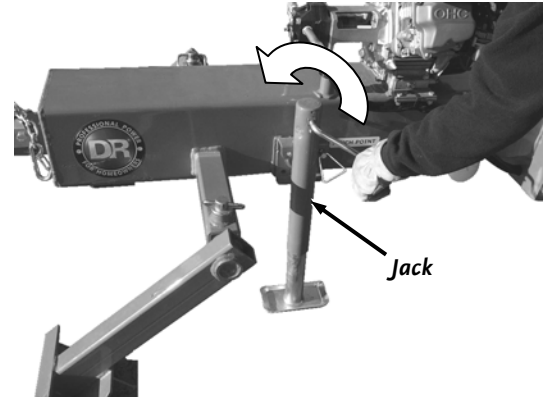

Figure 11
4. Lower the rear of the Backhoe to the ground by cranking the Jack Handle counterclockwise (**Figure 11**).